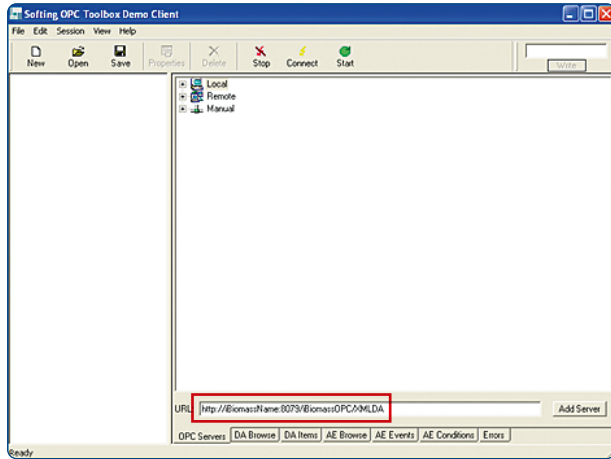

Figure 65: Insertion of the Arc View Controller URL.
2. Connection of the OPC client on the PC to the integrated OPC server in the Control Unit using the following URL: `http://ArcViewControllerName:8079/EVOOPC/XMLDA`, where «ArcViewControllerName» (ex: E265-XXX-XXX) is the name of the Control Unit that is on the sticker on the left side panel and in the About Menu (Figure 13) of the software. Alternatively, the IP address of the device may be used. In the example below, the IP address 192.168.128.181 was used. Enter the OPC Server URL in the associated text control and press add server (Figure 65).